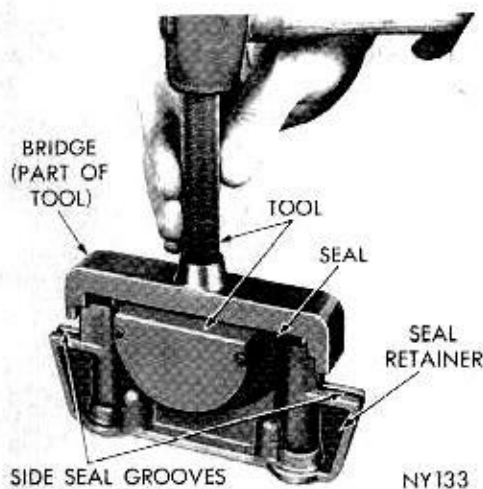
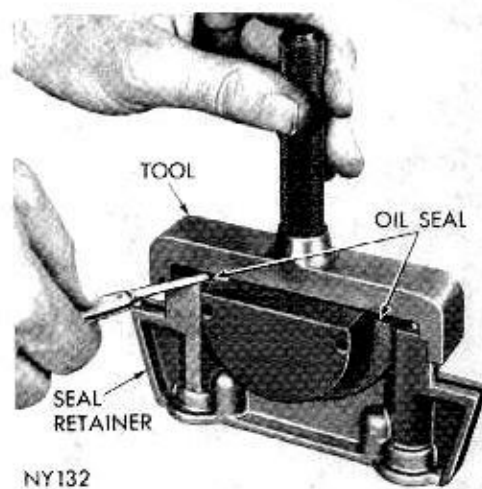

Fig. 42—Installing Rear Main Bearing Oil Seal
Fig. 43—Trimming Rear Main Bearing Oil Seal
(1) Install a new seal in seal retainer so that ends protrude (Fig. 42).
(2) Install the bridge on the tool and tap seal down into position until tool is seated.
(3) Trim off portion of seal that protrudes above cap (Fig. 43).
(4) Install two side seals in grooves in seal retainer.
(5) When installing seal retainer, tighten screws to 30 foot-pounds.